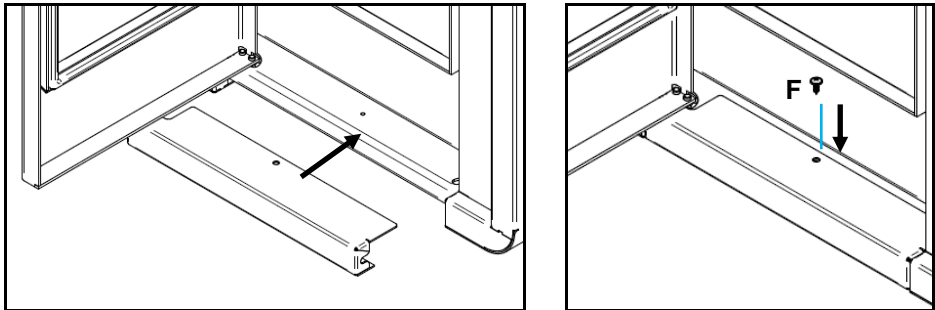

Figure 46 - Fixation of the lower cap of the Olive
l) To finalize, mount the bottom cap of the equipment as shown in Figure 46, open the door and fit the lower cap piece on the base of the equipment, matching the drilling of the part with that of the equipment and then assemble it with a F screw (DIN 7981 4,2x13) or screw (ISO 3780 M5x12).